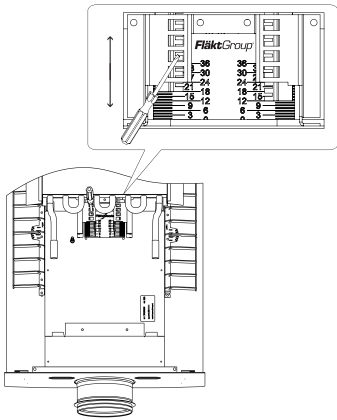

FIGURE 18
- 2) Once you determine, which nozzles need to be adjusted, use a screwdriver to adjust the energy control. (See FIGURE 18)